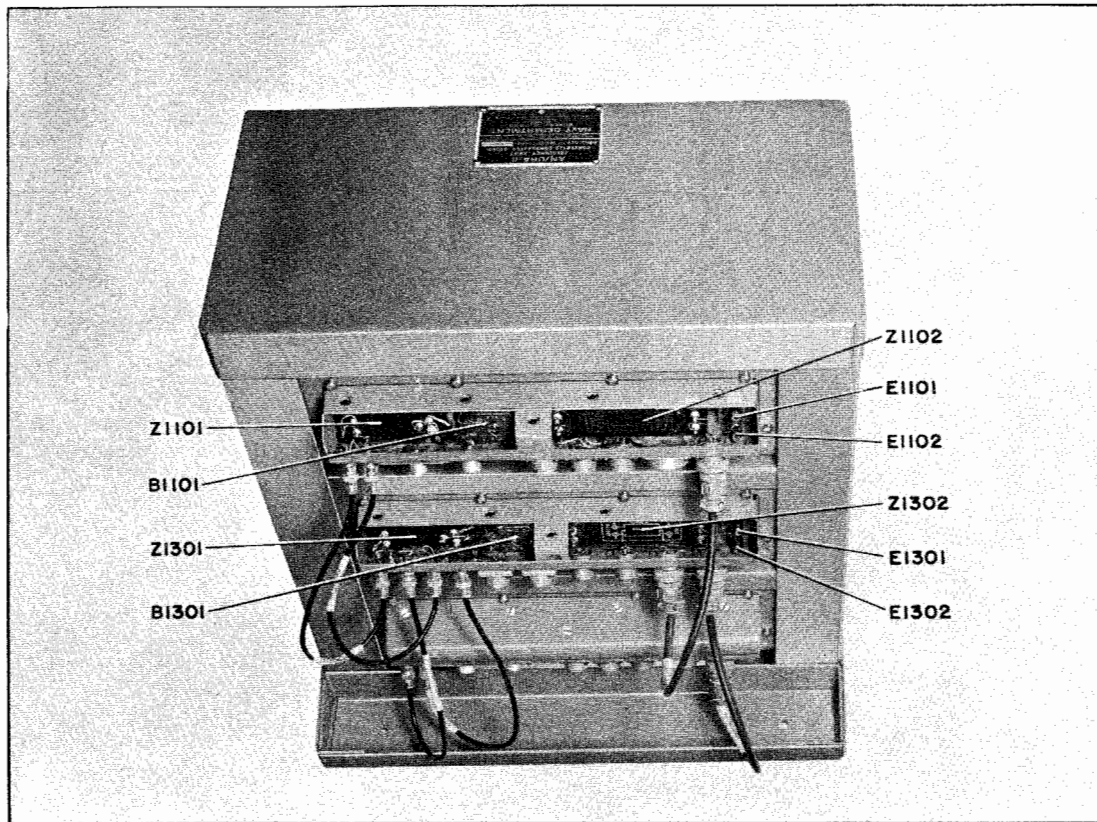

Figure 7-2. Cable Filters
*b.* CABLE FILTERS.—See Figure 7-2. Check the circuits for continuity and shorts, using an ohmmeter. Trouble in the fan motor can best be remedied by replacing the motor or motor capacitor. See Figures 7-24 and 7-25 for the Converter Cable Filter schematic and wiring diagram and Figures 7-26 and 7-27 for the Comparator Cable Filter schematic and wiring diagram.